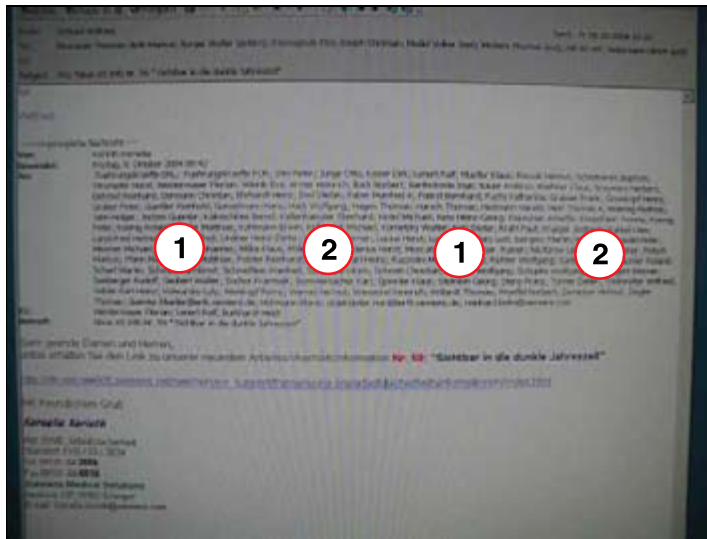

Fig. 62: Example 2: Misadjustment of frequency
- No vertical interferences should occur (Fig. 62 / p. 81).